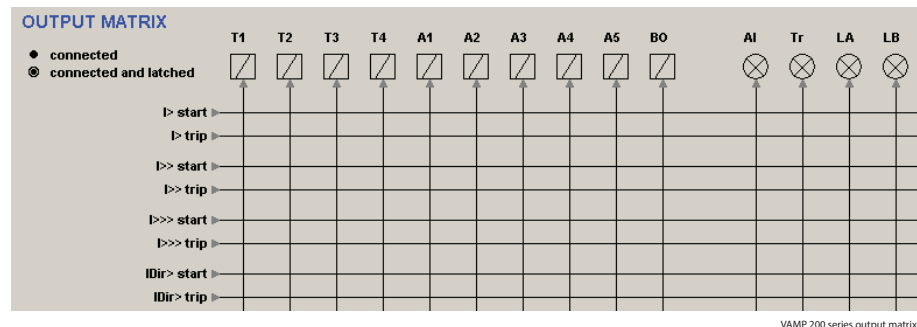

Figure 8.2: Output matrix.
There are two LED indicators named "Alarm" and "Trip" on the front panel. Furthermore there are three general purpose LED indicators - "A", "B" and "C" - available for customer-specific indications. In addition, the triggering of the disturbance recorder (DR) and virtual outputs are configurable in the output matrix. See an example in Figure 8.2.